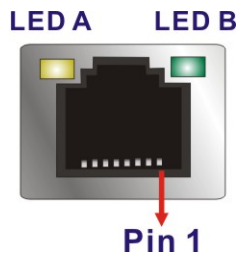

Figure 3-26: LAN Connector
- CN Pinouts:** See Figure 3-26 and Table 3-23